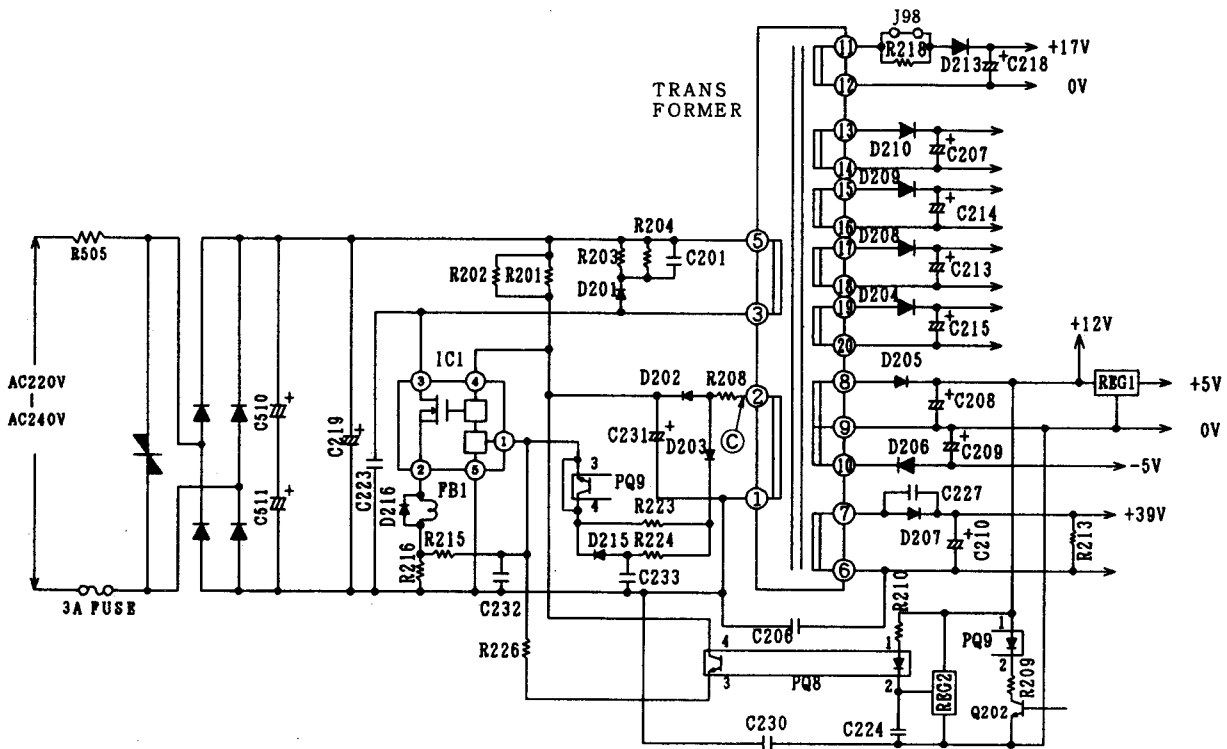

Fig. 4-1 Power circuit for P.W.B.
- Fig. 4-1 shows the power circuit for P.W.B. and waveform at each point.